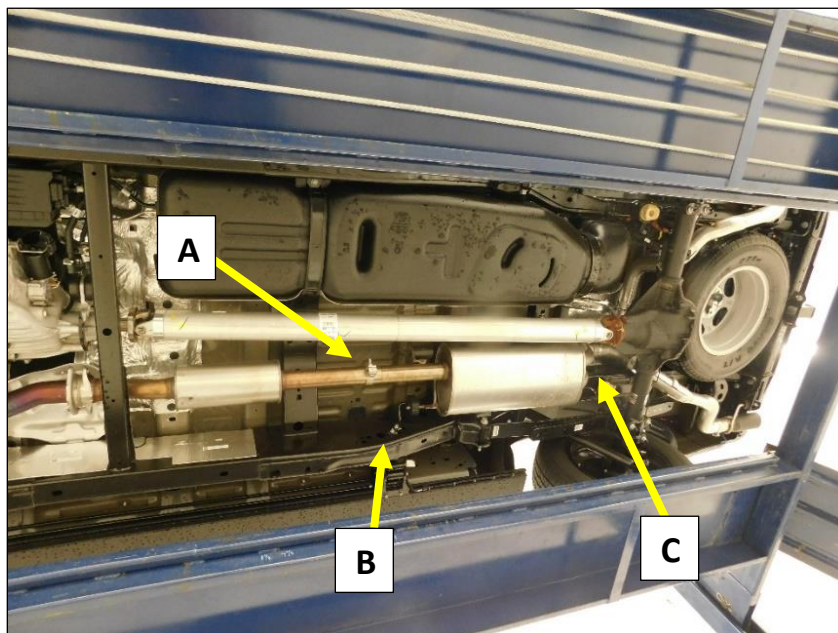

Figure 4
- Loosen the clamp at the slip joint between the muffler and the resonator **(A)**. **Fig.4**
- Remove the (x2) bolts at the muffler hanger on the frame rail **(B)**. **Fig.4**
- Remove the bolt from the muffler hanger over the muffler and remove the hanger from the cross brace **(C)**. **Fig.4**
- Remove the muffler from the vehicle by sliding the muffler rearward off the resonator pipe. **Fig.4**